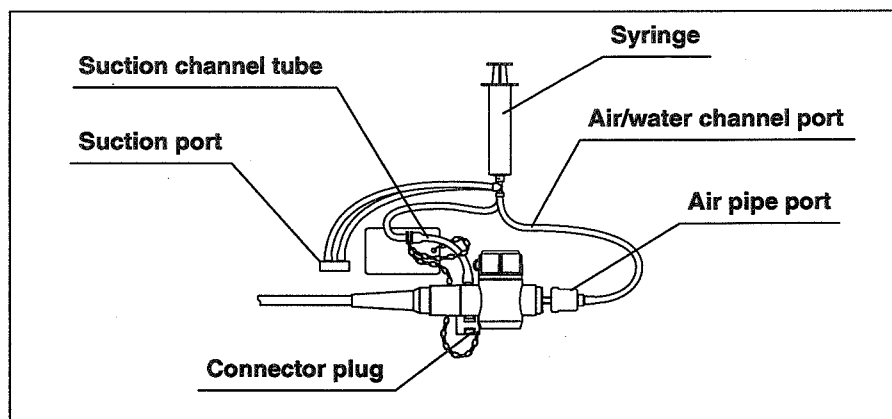

Figure 3.21
3. Attach the injection tube's connector plug to the air and water supply connectors on the endoscope connector (see Figure 3.21).
4. Attach the injection tube's air pipe port to the air pipe on the endoscope connector (see Figure 3.21).
5. Attach the injection tube's suction channel tube to the suction connector on the endoscope connector (see Figure 3.21).